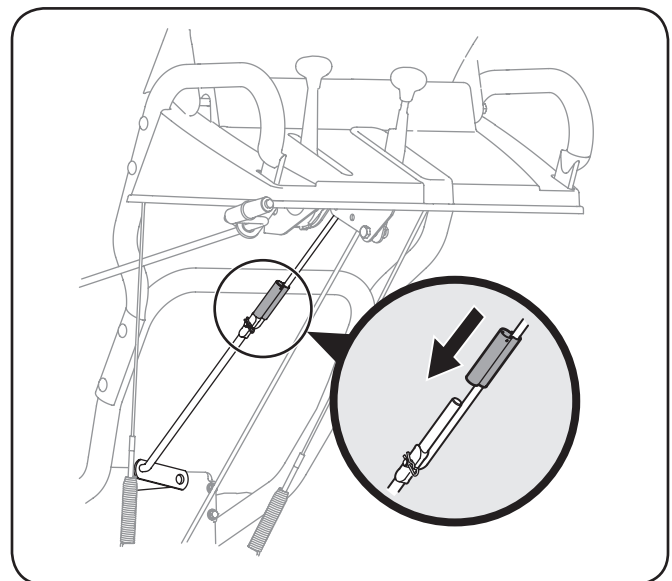

Figure 3-3
5. Align the upper and lower shift rods, then slide the shift rod connector down over the end of the lower shift rod. Tap the connector until the lower rod is completely through the connector. See Fig. 3-3.